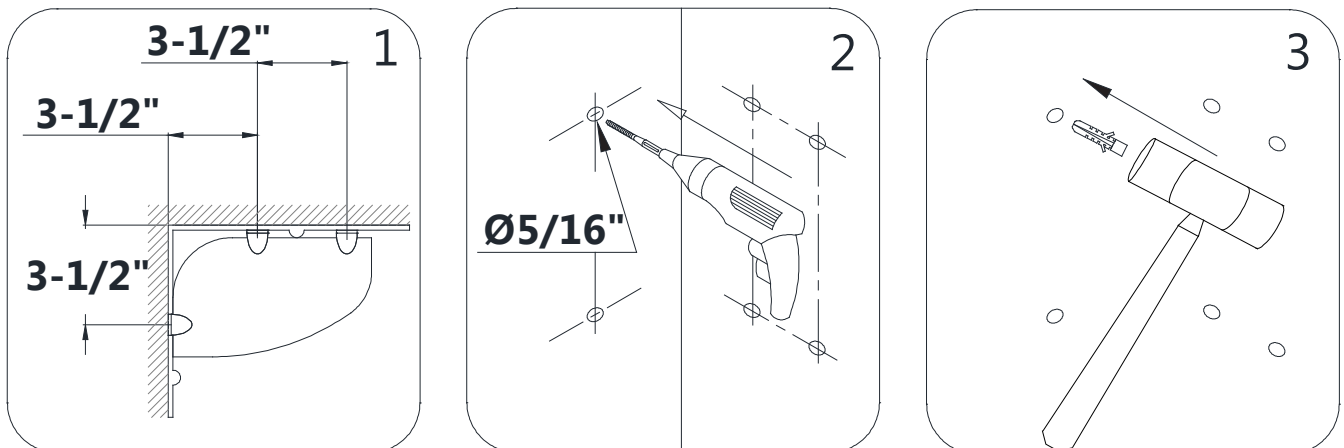

Fig 26
26. Mark the location for the **Shelf Brackets (#10)** according to the measurements in Fig 25.1. Drill the holes using **Ø5/16"** drill bit and insert the **Wall Anchors (#06)**. (Fig 26)